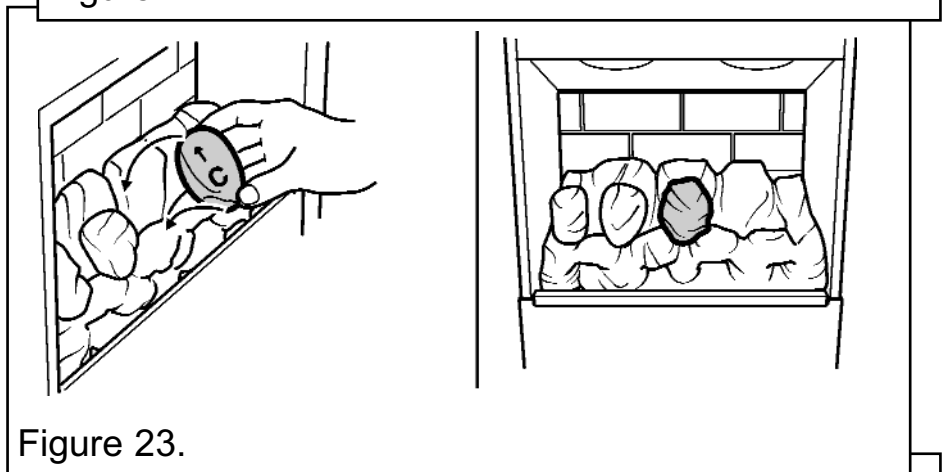

Figure 23.
4. Hold coal 'C' upright with the arrow pointing to the top. Locate coal 'C' as shown in figure 23.